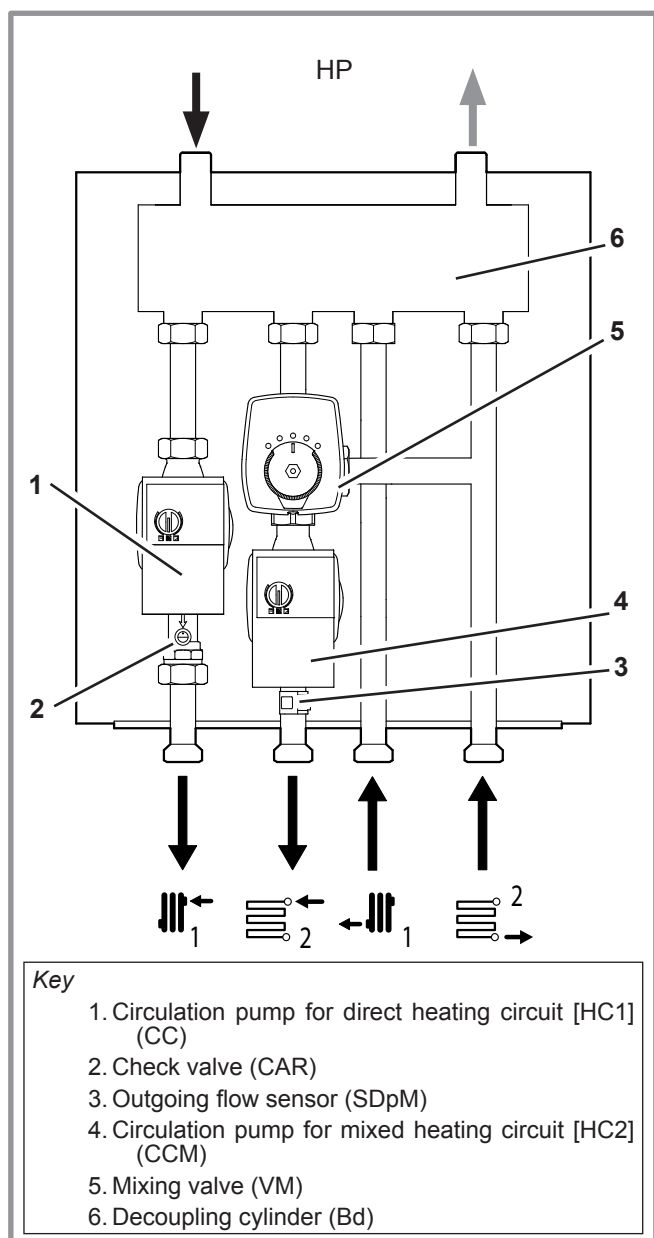

figure 4 - Components
- Make the hydraulic connections for the heating circuits (see figure 4).